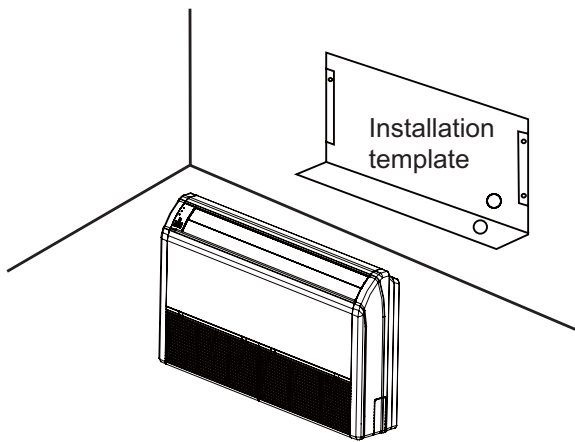
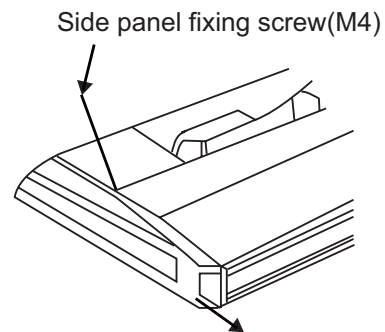

Fig.2
Fig.3
- (1). Determine the mounting position on ceiling or wall by using the installation template to indicate indoor template frame. Mark the pattern and pull out the installation template.(Refer to Fig.2)
- (2). Remove the return grill, the side panel and the hanger bracket from the indoor unit as per procedure below.
* Loosen the side panel fixing screw and remove the side panel. (Refer to Fig.3)